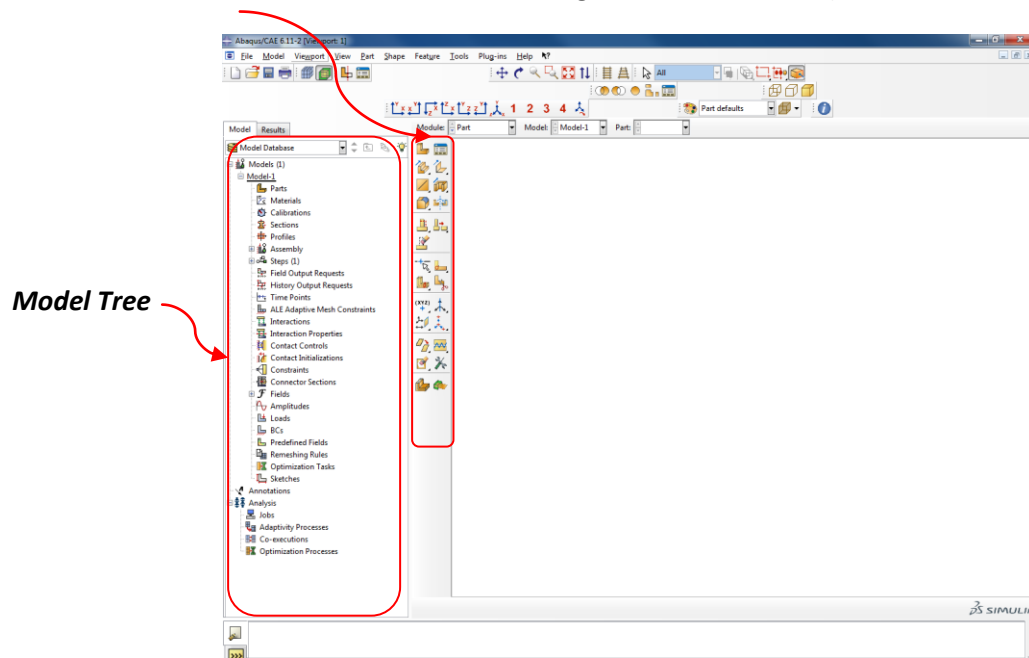

Figure 2. Abaqus/CAE Viewport
- Once the **Start Session** box is exited, the Abaqus/CAE Viewport should look similar to Figure 2. (Please note the **model tree** is the series of functions listed on the left hand side of the viewport, while the **module** is the list of icons to the right of the model tree)